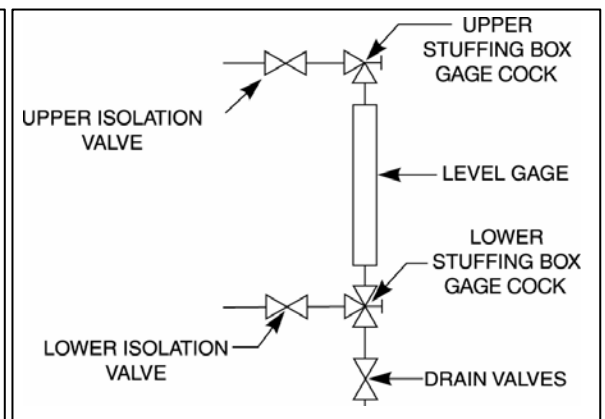

Figure 2B: Gages w/ Stuffing Box (S/B) & Isolation Valves.
5.2.2 Gages with Stuffing Box (B/S) Gage cocks and Isolation Valves (Fig. 2B)